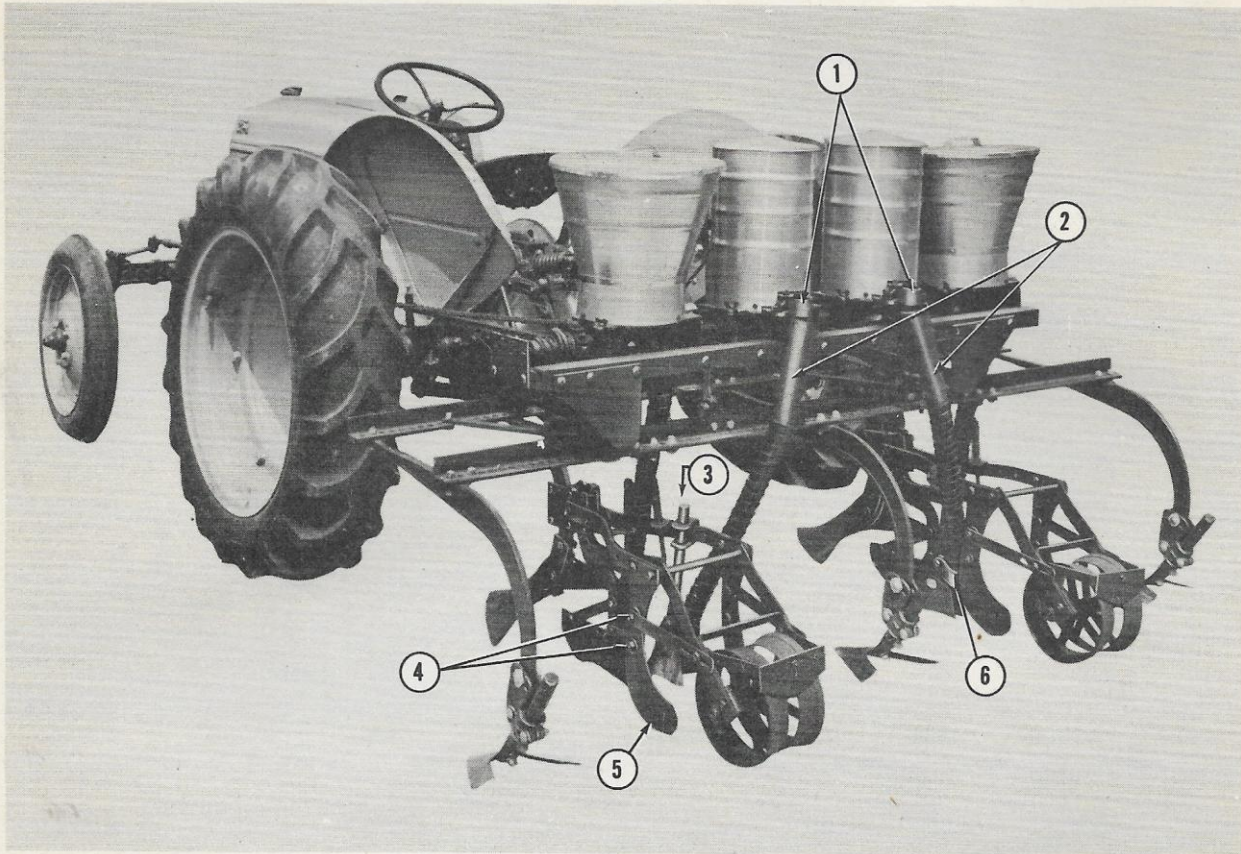

Figure 20
4. Replace the right hand seed hopper and attach one fertilizer hopper to each base in the same manner. See Figure 20.
5. Attach one fertilizer tube (2) to each fertilizer hopper outlet (1) with the bolt and nut provided on the tube as shown in Figure 20.
6. Attach one fertilizer opener (3) to each covering frame as shown in Figure 20.
- a. Secure the lower end of the fertilizer tube with the tube clamp (6) on each fertilizer opener.
NOTE: The fertilizer hoppers may be attached with the seed outlets (1), Figure 20, facing the tractor. In this way the operator can quickly note any clogging in the tubes or when the cans are empty. For this setup the fertilizer tubes are easily threaded between the frames and back to the openers.
To raise or lower the forward end of the sword type opener (5), Figure 7, loosen the nut on bolt (4), set the opener at the desired angle and tighten the nut. To adjust the spoon type coverers (5), Figure 20, loosen the nuts on bolts (4), set the coverer at the desired angle and tighten the nuts.